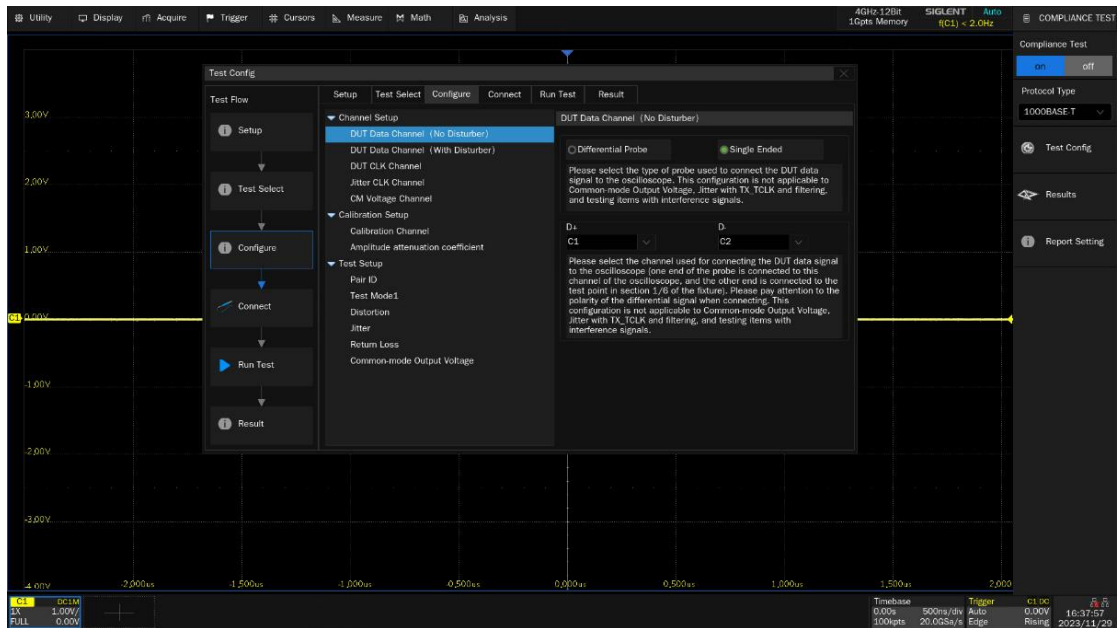

Figure 4-4 Configuration window
- **Configure:** The test items selected in **Test Select** will be highlighted in this column, and you can click the corresponding items to configure. You can set the input channels and probe types, as shown in Figure 4-4.